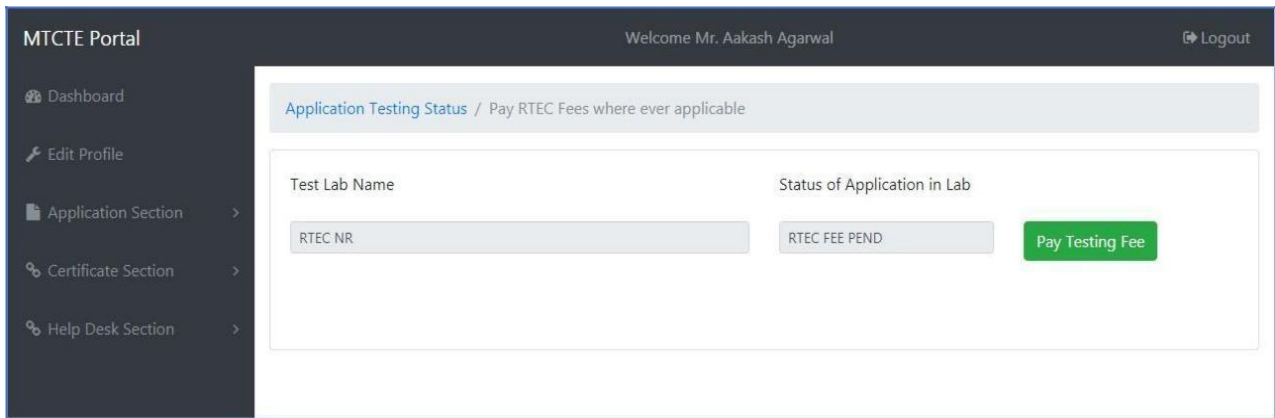

Fig. 28: Application Testing Status - Pay RTEC Fees
- 1) When selected, RTEC accepts the application, User gets email. The user should resume the application from the Dashboard, and select Pay Fees button to pay testing fee, as shown in Fig. 28 below: